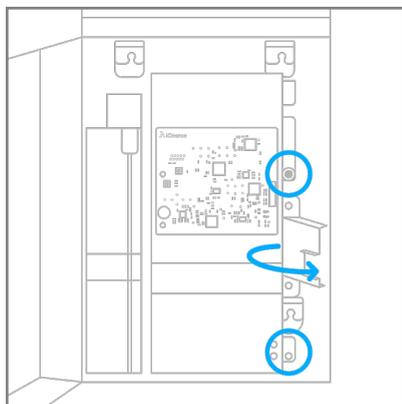
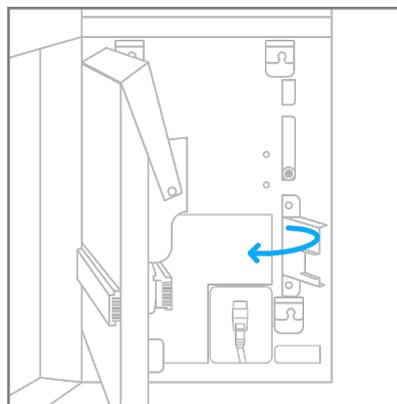

Figure 16.
Figure 17.
Step 6: Loosen the two thumb screws on the right side of the disinfection chamber. Rotate the fan duct out (Figure 16.) then rotate the disinfection chamber out to gain access to the back panel (Figure 17.).